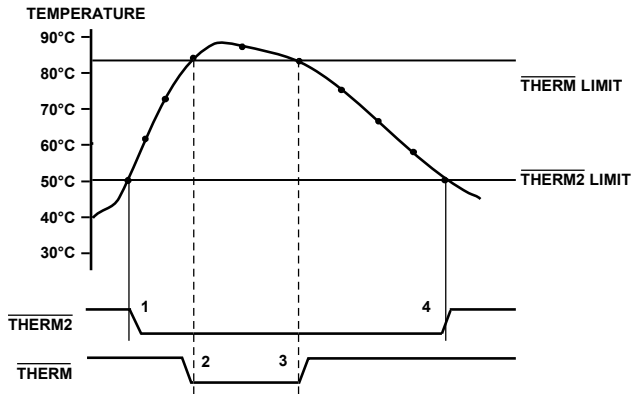

Figure 21. Operation of the \overline{THERM} and $\overline{THERM2}$ Interrupts
Figure 21 shows how $\overline{\text{THERM}}$ and $\overline{\text{THERM2}}$ operate together to implement two methods of cooling the system. In this example, the $\overline{\text{THERM2}}$ limits are set lower than the $\overline{\text{THERM}}$ limits. The $\overline{\text{THERM2}}$ output is used to turn on a fan. If the temperature continues to rise and exceeds the $\overline{\text{THERM}}$ limits, the $\overline{\text{THERM}}$ output provides additional cooling by throttling the CPU.
- The \overline{THERM} output deasserts (goes high) when the temperature falls to \overline{THERM} limit minus hysteresis. In Figure 21, there is no hysteresis value shown.